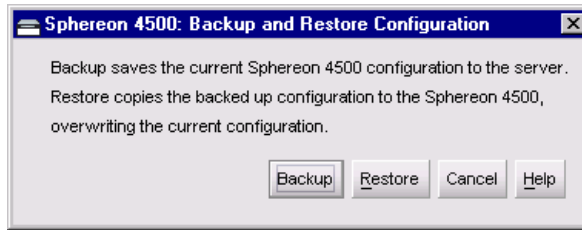

Figure 4-69 Backup and Restore Configuration Dialog Box
3. Select the *Backup & Restore Configuration* option from the *Maintenance* menu. The *Backup and Restore Configuration* dialog box displays (Figure 4-69 on page 4-80).